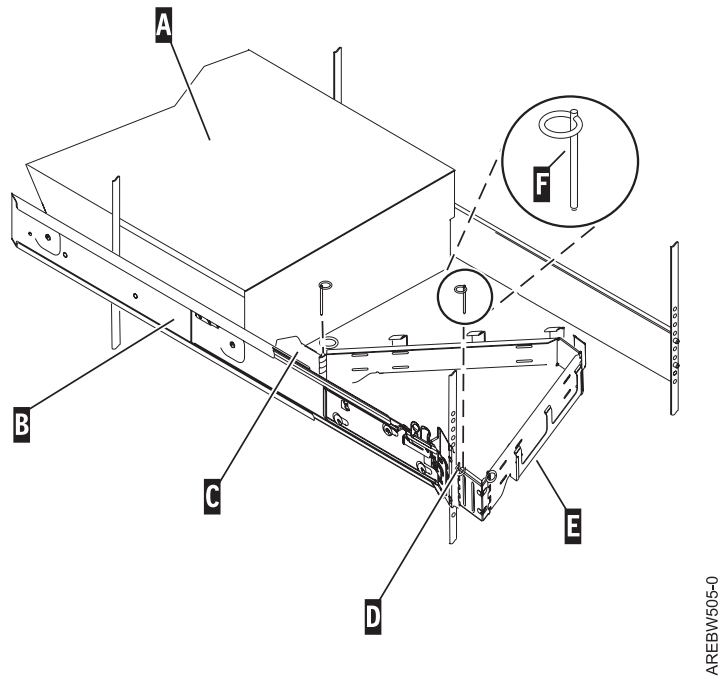

Figure 59. Attaching the cable-management arm.
3. Use the pin (F) to pin the cable-management arm (E) to the rack frame (D) as shown in Figure 59 on page 55.
4. Use the second pin (F) to pin the other end of the cable-management arm to the flange (C) that is attached to the sliding portion of the left system rail assembly (B) as shown in Figure 59.